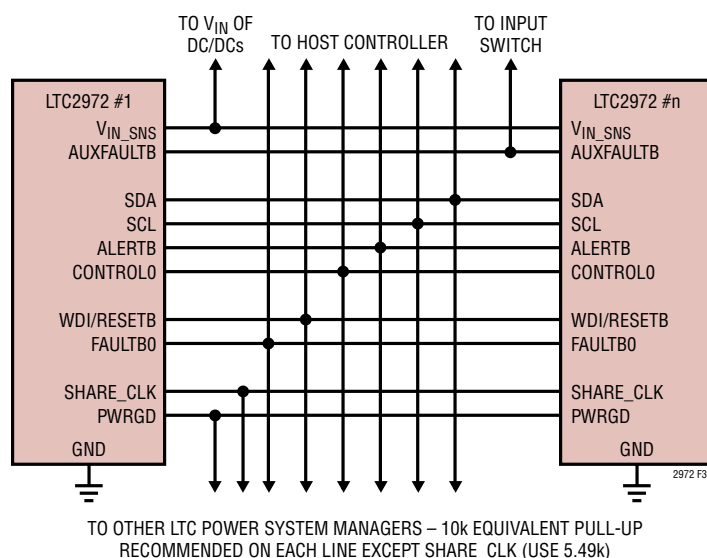
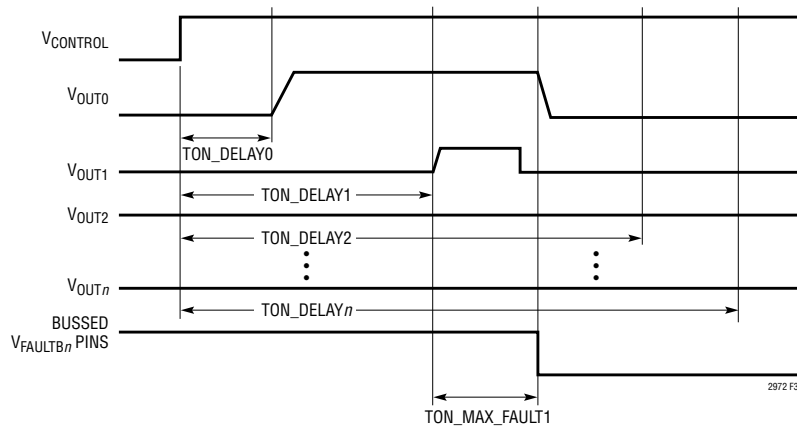

Figure 32. Typical Connections Between Multiple ADI Power System Managers
Figure 33. Aborted On-Sequence Due to Channel 1 Short
Figure 32 shows how to interconnect the pins in a typical multi-LTC2972 array.
- The `FAULTB` lines can be connected together to create fault dependencies. Figure 32 shows a configuration where a fault on any `FAULTB` will pull all others low. This is useful for arrays where it is desired to abort a startup sequence in the event any channel does not come up (see Figure 33).
- `PWRGD` reflects the status of the outputs that are mapped to it by the `MFR_PWRGD_EN` command. Figure 32 shows all the `PWRGD` pins connected together, but any combination may be used.